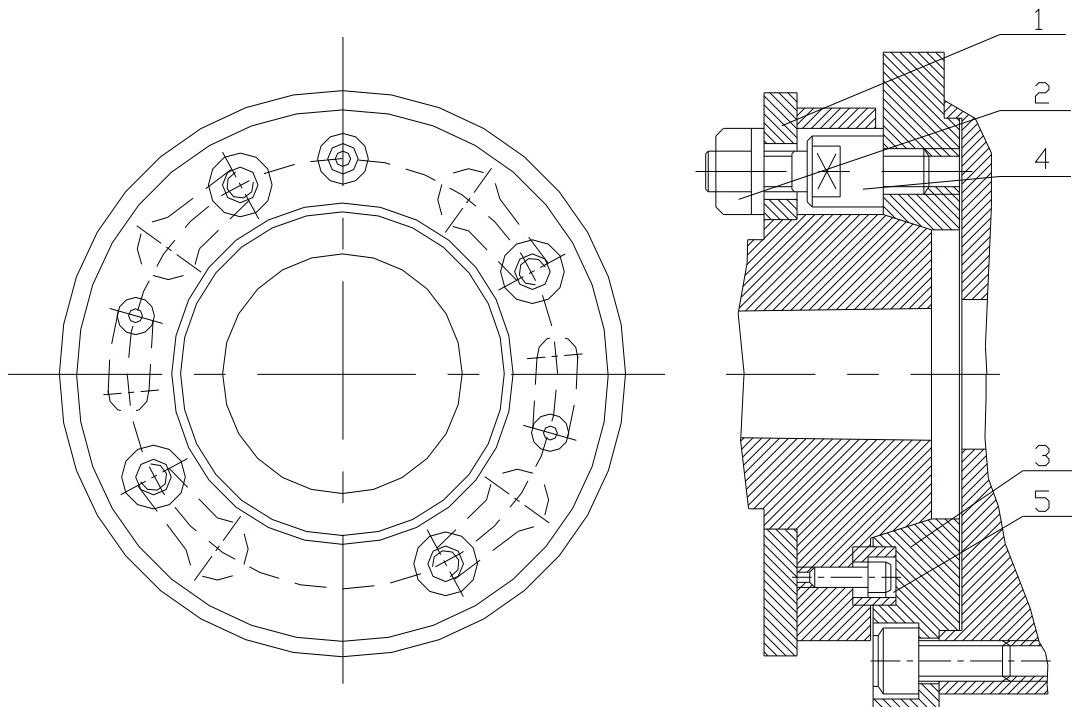

Fig. 4-13
4.7.1 MOUNTING A CHUCKING DEVICE ON SPINDLE NOSE (DIN55027/ISO702-III) FIG.4-13
When a chucking device has to be mount on spindle nose as per Fig.4-13 turn the bayonet plate 1 clockwise (spindle forward) so that nuts 2 go through two-step hole splines of the bayonet plate. Fit the chucking device on spindle taper so that mounting bolts 4 and nuts 2 go through spindle holes and the round sleeve 5 align with the chucking device opening.